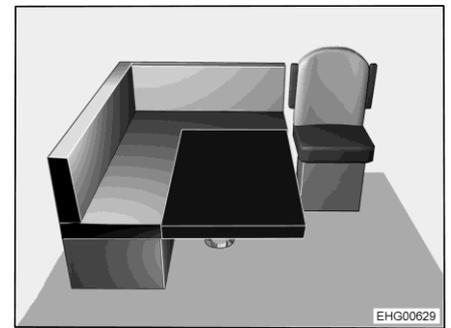

Fig. 77 After conversion
- Insert the additional cushion onto the table as shown in Fig. 77. The rounded corner faces to the front right.